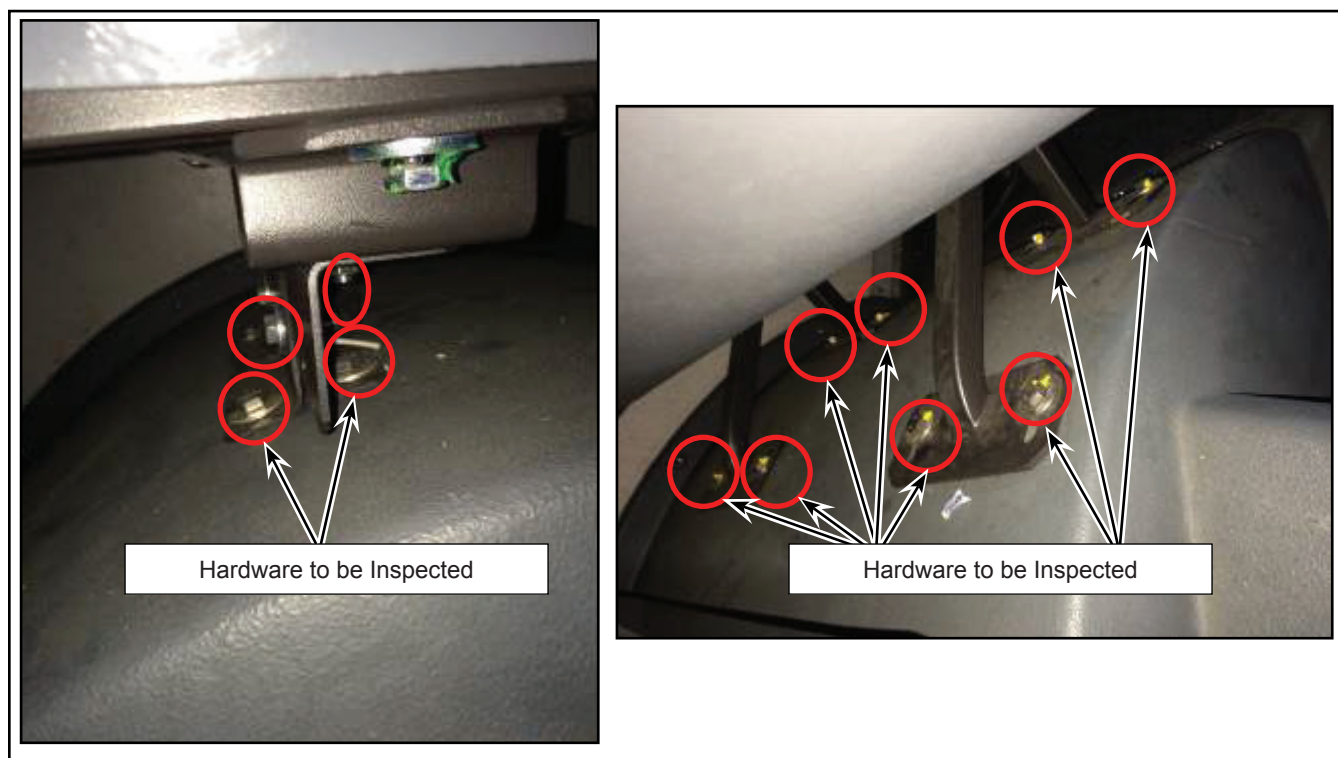

Figure 7 - Typical View of Rear Wheelwell Seats
- 1.11. Using a 14mm socket and torque wrench, remove and inspect the bolts on the rear wheelwell seats (see Figure 7). If bolts are rusted, stretched or having damaged threads proceed to level 2 (step 2.23 onwards), else continue with consecutive steps.